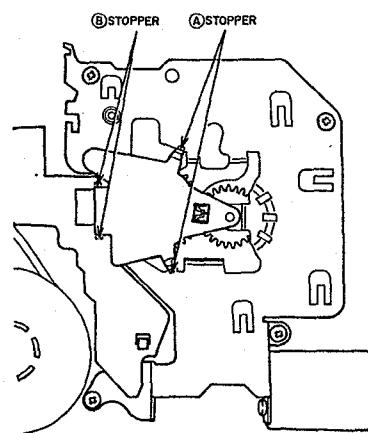

Fig. 3-5
- 1) Release the two ④ stoppers as shown in Fig. 3-5.